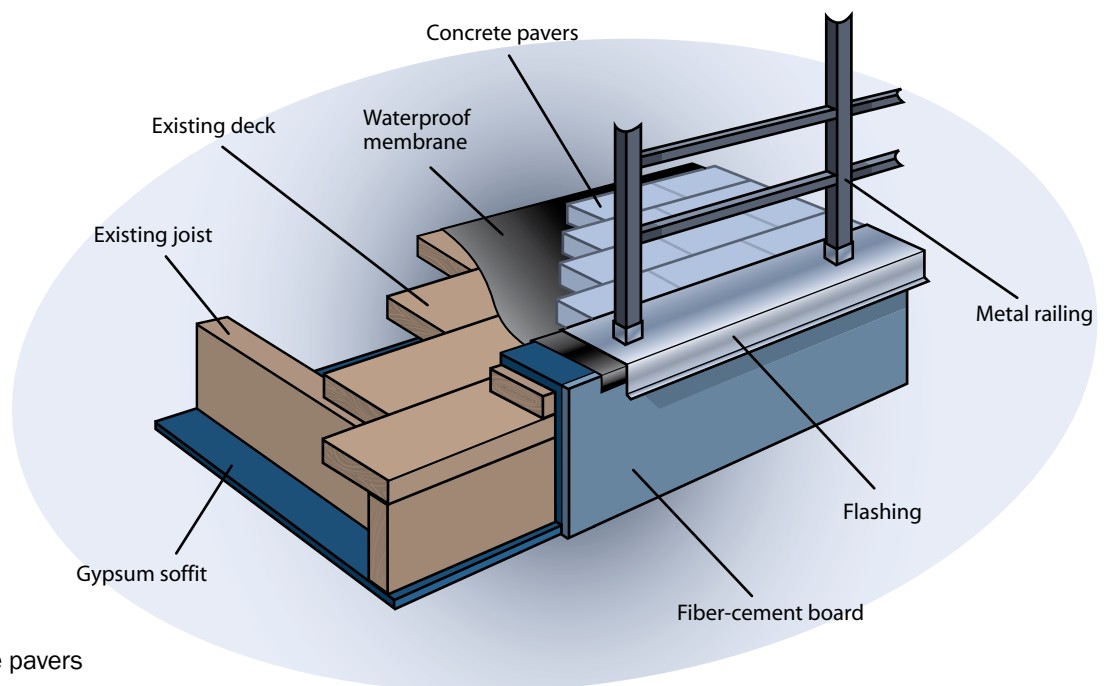

Figure 4. Concrete pavers over existing deck.
- Replace dimensional timber railings with railings constructed of fire-resistant materials such as metal, tempered glass, cables, or 3-inch nominal thickness fire-retardant-treated wood (see Figure 4).
- When the deck, balcony, stairs, or ramp can accommodate or be reinforced to accommodate additional load, install brick or concrete pavers and a suitable drainage mat over the existing decking (see Figure 4).
- Install a soffit at the underside of balconies, decks, stair landings, or ramps when skirting is not installed (see Figure 4).